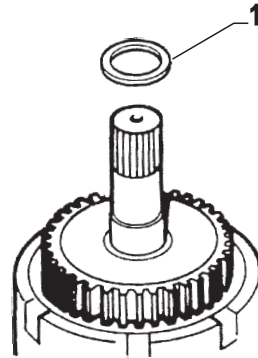

FIG. 1-3
Press on new thrust washers (item 1, Fig. 1-3) onto input shaft.